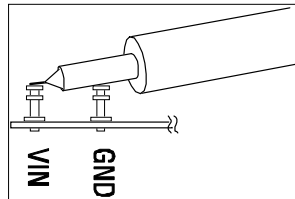

Figure 1. Measuring Input or Output Voltage Ripple
**NOTE.** When measuring the input or output voltage ripple, care must be taken to avoid a long ground lead on the oscilloscope probe. Measure the input or output voltage ripple by touching the probe tip directly across the VIN or VOUT and GND terminals. See the Measurement Equipment Set-up diagram in Figure 1 for proper scope probe technique.